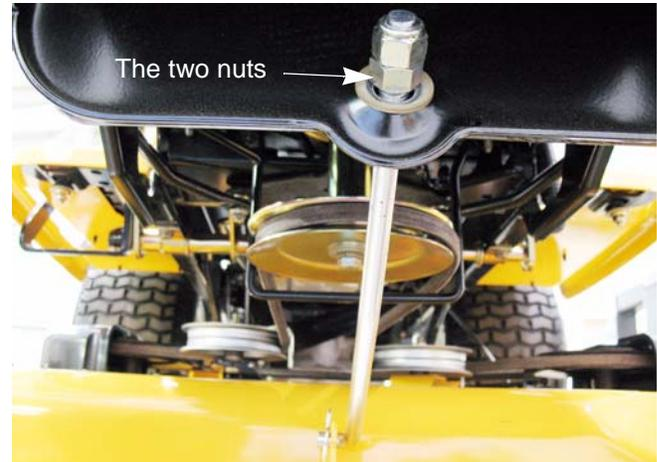

Figure 8.31
3. Working at the front of the tractor, loosen the two hex lock nuts at the front of the deck hanger rod. Thread the lock nuts away from the hex nuts behind them. See Figure 8.31.